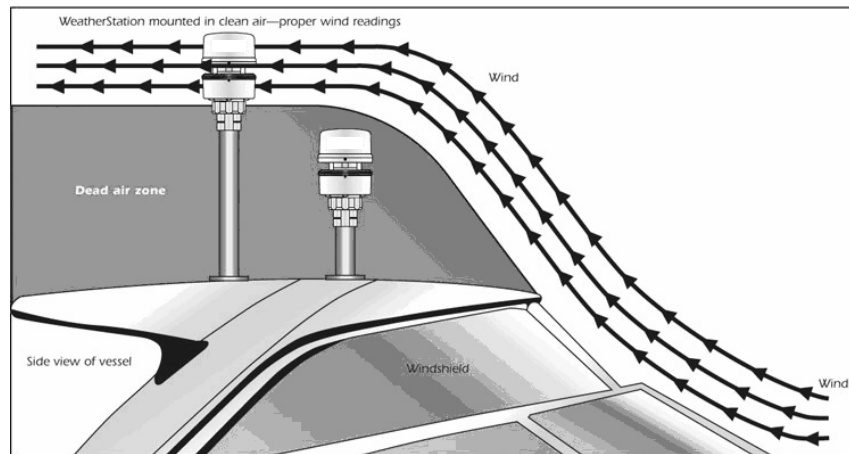

Figure 14. Boat/vehicle mounting location (boat shown)
*Move the WeatherStation instrument farther back and higher (see Figure 14).*